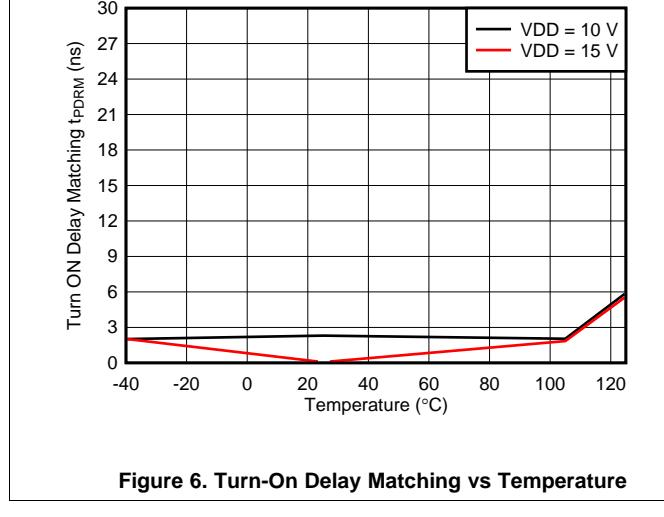
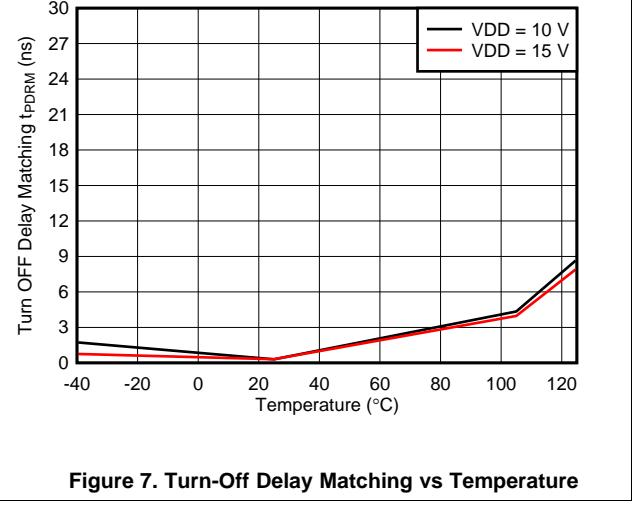

Figure 6. Turn-On Delay Matching vs Temperature
Figure 7. Turn-Off Delay Matching vs Temperature
The level shift circuit (refer to the Functional Block Diagram) is the interface from the high-side input to the high-side driver stage which is referenced to the switch node (HS). It is a pulsed generated level shifter. With an input signal the pulse generator generates "on" pulses based on the rising edge of the signal and "off" pulses based on the falling edge. On pulses and off pulses turn on each branch of the level shifter so that current flows in each branch to generate different voltages, which is transferred to the set and reset signal in the high side. The signal is rebuilt by the RS latch in the high side domain. The level shift allows control of the HO output referenced to the HS pin and provides excellent delay matching with the low-side driver. The delay matching of UCC27714 is summarized in Figure 6 and Figure 7.